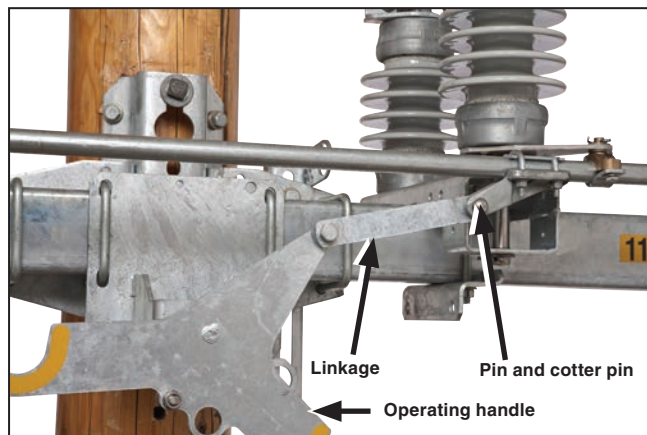

Figure 3. Install pin and cotter pin to connect linkage.
- STEP 2.** With the switch in a partially **Open** position, use the pin and cotter pin provided to connect the operating handle and linkage, as shown in Figure 3.